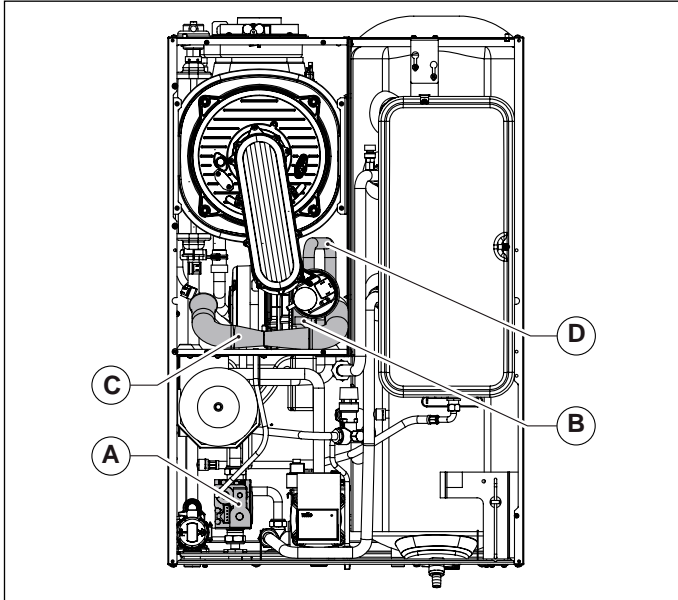

Fig. 32 Intake pipe
- Loosen the screw securing intake pipe to mixer, and remove pipe (see Fig. 32 Intake pipe).
- Disconnect the gas pipe from the mixer (see Fig. 32 Intake pipe).